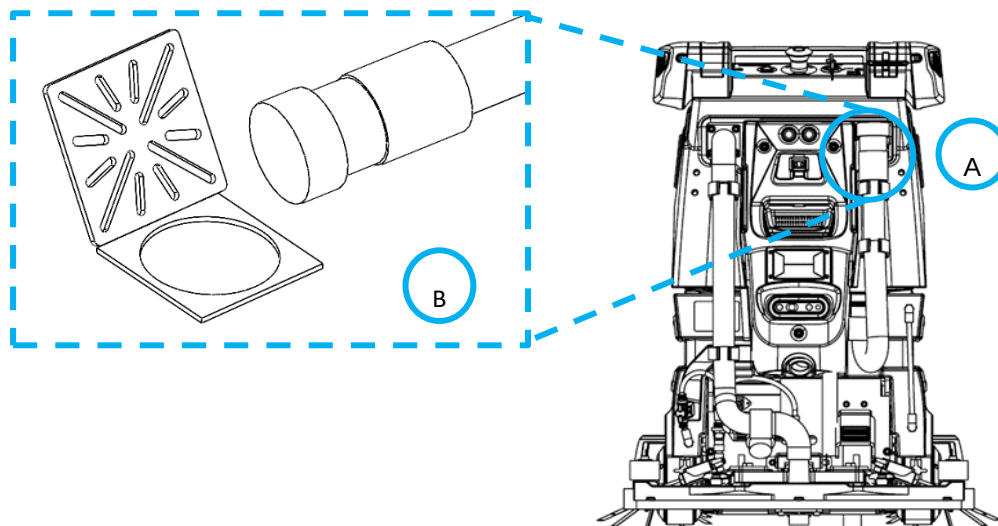

FIGURE 10-2
1. Unmount the manual drain hose from the holding hooks provided **(A)** (Fig. 10-2).
2. Point hose towards a drain or appointed disposal location and uncap the hose **(B)** (Fig. 10-2).